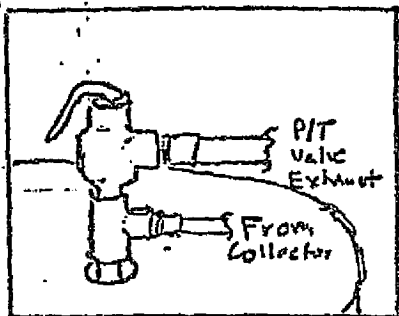

Figure 6: P&T Valve Modification
2.4.11 In both tanks, connect a 3/4" brass tee to a 2" brass nipple. Install long stem P & T valves in one end of the tees and 1/2" x 3/4" copper x Male NPT adapters in the branches for solar loop returns. Plumb the P&T exhausts according to applicable codes. (See Figure 6.)
- h. Connect Port A to the existing electric or gas P & T valve port modified previously. (Figure 6).